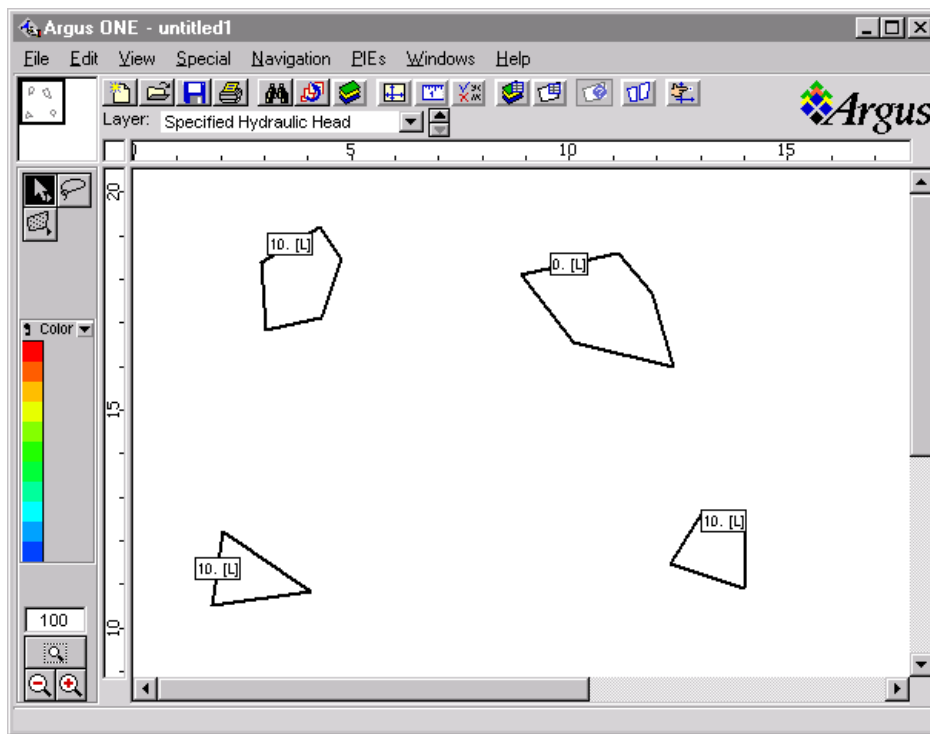

Figure 1. Lakes in Areal Ground-Water Flow Step-by-Step Example
8. Draw a lake by first activating the contour-drawing tool. To do this, click on the small quadrilateral just below the arrow along the left side of the *Argus ONE window*. Then move the cursor into the white workspace and click three times creating the first vertices of a closed contour. Try to create a lake that looks like one of the four shown in Figure 1. Then, double-click on the location desired for the last vertex. The *Contour Information dialog* appears.
- Draw the other three lakes by clicking and dragging to create small closed regions similar to the ones shown in Figure 1. For each lake, double-click on the last vertex to close the shoreline. This brings up the *Contour Information dialog* for each lake. For two of the remaining lakes, enter 10.0 for the head, and for the last lake, enter 0.0 for the head. For all lakes, enter 0.0 for the concentration.